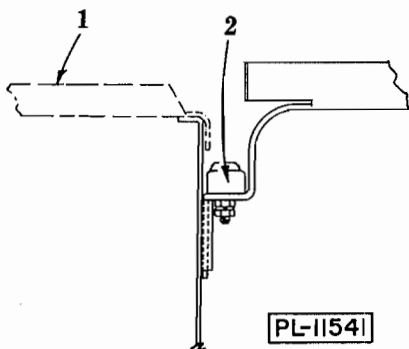

Fig. 2
B.1.2 Dish tables (1, Fig. 2) should be turned down and fit into the dishwasher.
D.4.1 If bumper (2, Fig. 2) becomes worn or deformed it must be replaced; door safety switch and machine will not function properly.